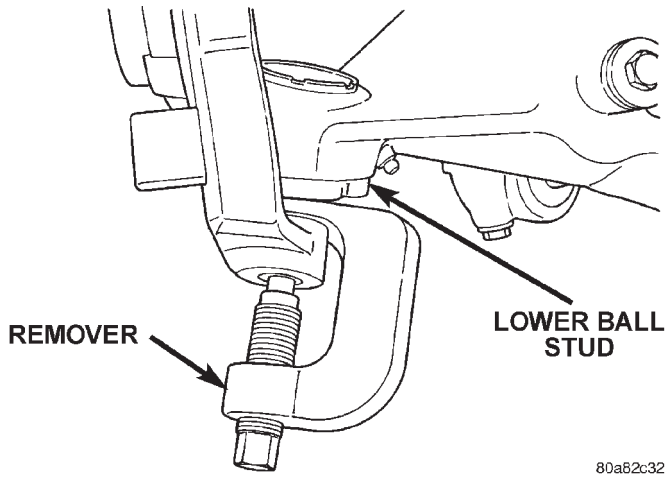

Fig. 7 Lower Ball Joint
(1) Raise and support the vehicle.
(2) Remove the wheel and tire assembly.
(3) Remove front driveshaft, refer to Group 3 Differential & Driveline.
(4) Remove torsion bar.
(5) Remove shock absorber lower bolt.
(6) Remove stabilizer bar.
(7) Remove the cotter pin and nut from lower ball joint. Separate ball joint from the steering knuckle with Remover C-4150A (Fig. 7).